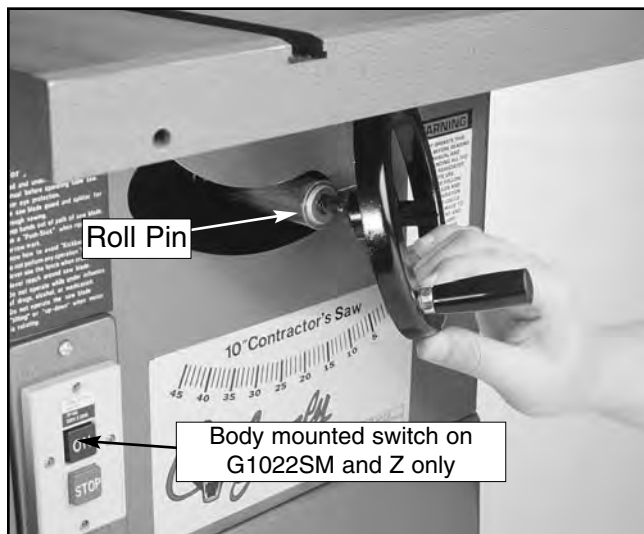

Figure 12. Mounting the handwheels.
1. Position a handwheel over the arbor raising shaft on the front of the saw. Be sure it fits completely over the shaft. The slots in the handwheel hole will engage with the roll pin on the shaft as shown in **Figure 12**.